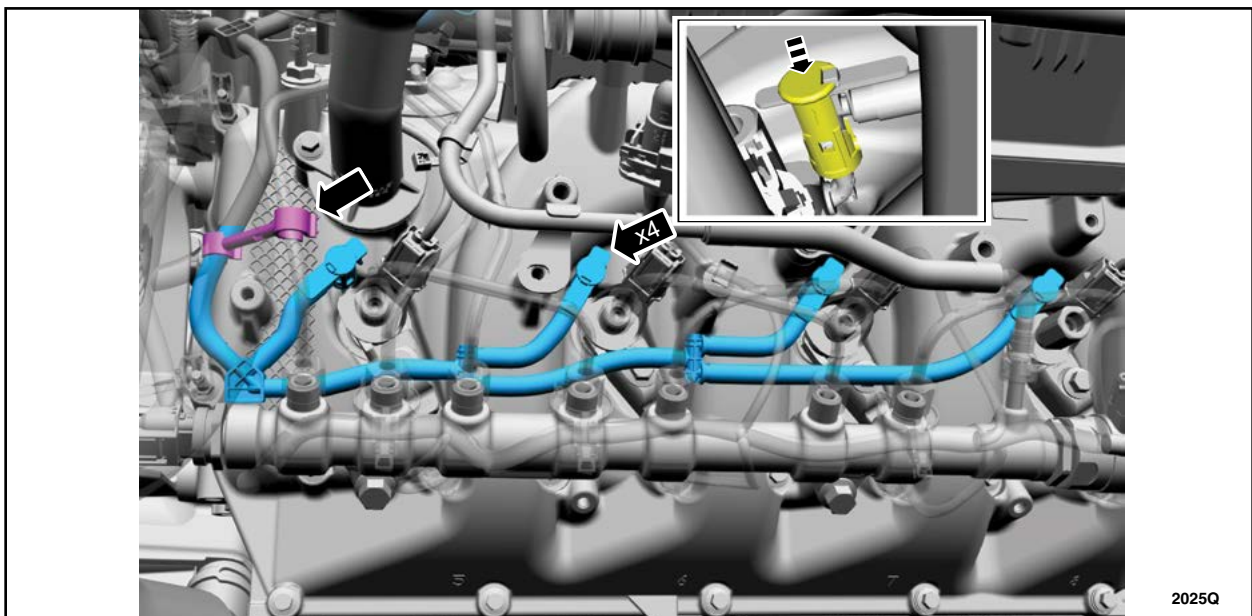

FIGURE 11
14. Install the fuel injector return hoses to the left side of the engine, then attach the left fuel injector return hose to the hose retainers. See Figure 11.